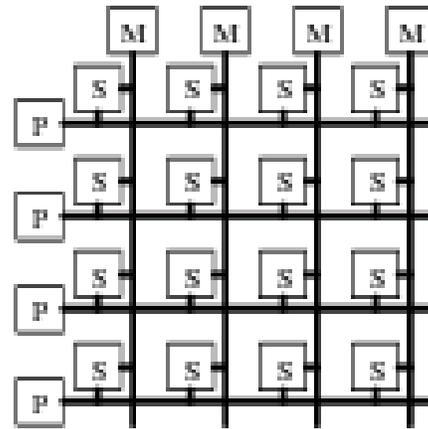

Figure 6: Crossbar switch
- A **crossbar switch** allows any node to communicate with any other node in one pass through interconnection so that there is no network conflict. These switches usually do not scale well. Refer figure 6.